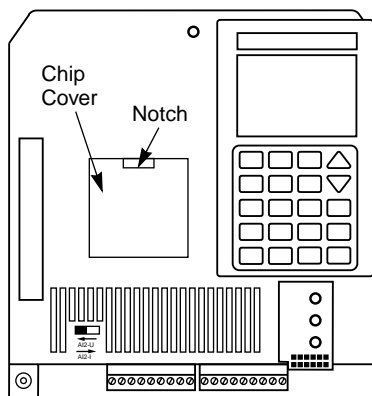

Figure 40: Main Control Board — Location of Chip Cover
4. Insert a small, electrically-insulated screw driver in the notch of the firmware chip cover. Apply slight upward pressure and pull out to remove the cover. See Figure 40.